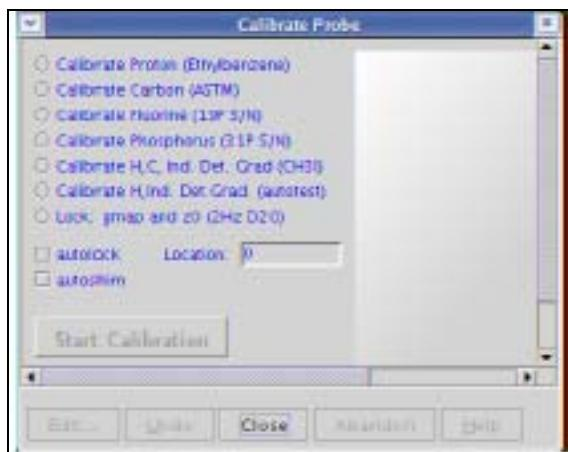

Figure 11 Calibrate Probe Window
5. Click a radio button in the Calibrate Probe window to select the calibration experiment, see Figure 11.